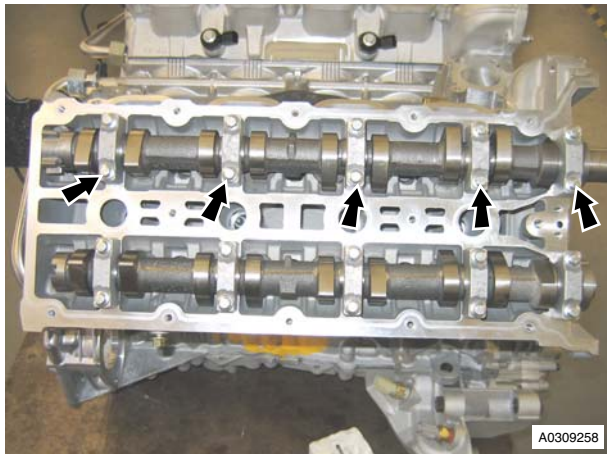

Figure 2
- Loosen the bolts that attach the ten intake camshaft bearing caps gradually in steps (refer to Figure 2 - Right side shown).